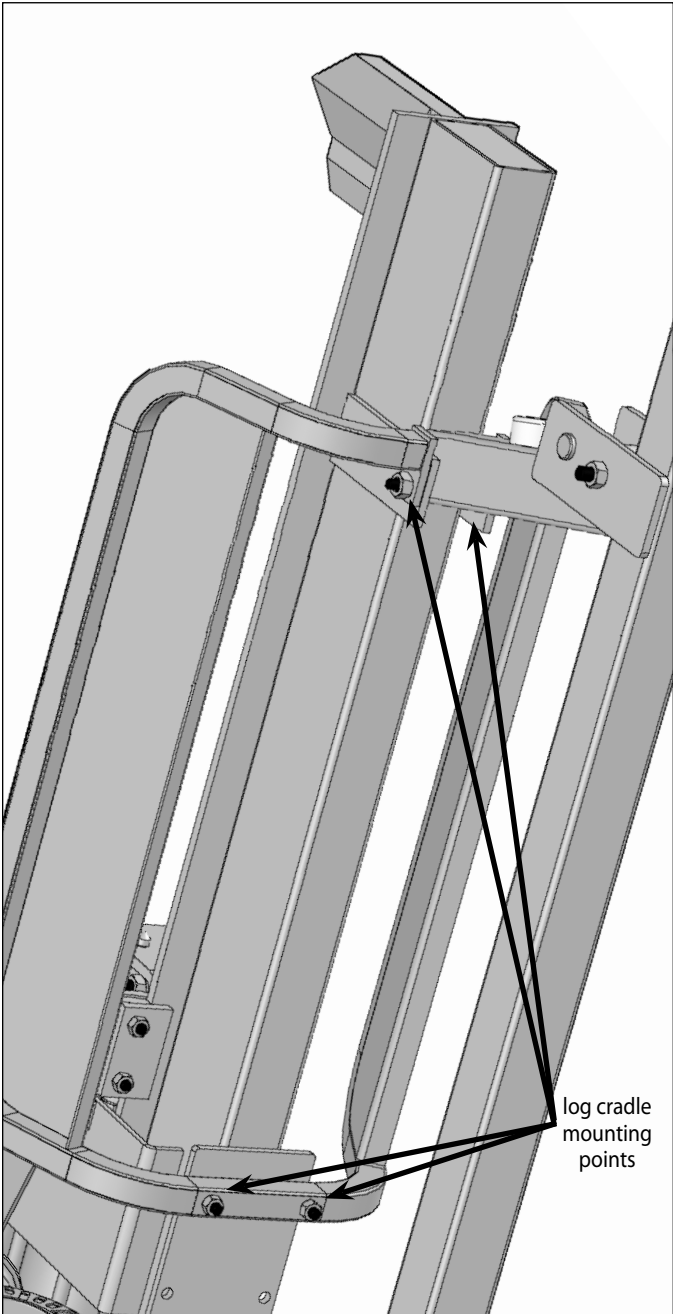

Figure 17
12. **(European Version)** Install log cradle onto tank beam using (2) 90mm bolts, (2) 5/16-24 bolts, and (4) nylock nuts. **SEE FIGURE 17.**